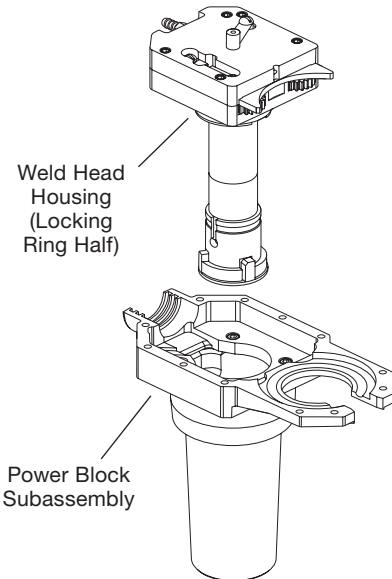

Figure 28 Removing the Power Block Subassembly
8. Carefully lift the power block subassembly out of the motor half of the weld head housing. See Figure 28.